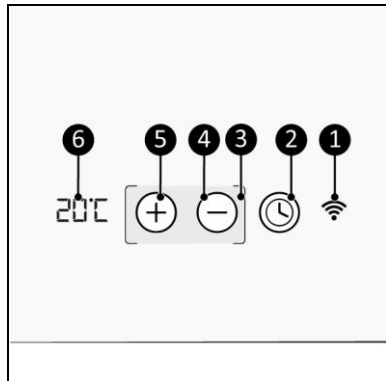

Figure 5
The LED-screen will extinguish automatically after ± 15 seconds, the square brackets remain visible. Touch the device between the square brackets (Figure 5, pos. 3) to light it up again.